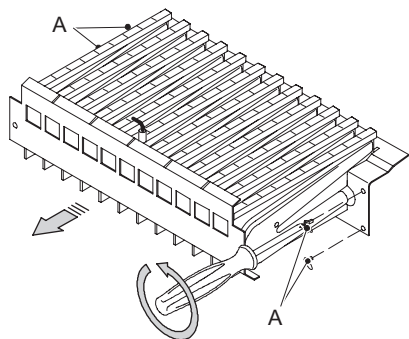

Figure 8.1
- Remove the front panel from the combustion chamber and the burner in Figure 8.1.
- Reassemble the burner Figure 8.1, the front combustion chamber panel and the mobile wall of the sealed chamber.